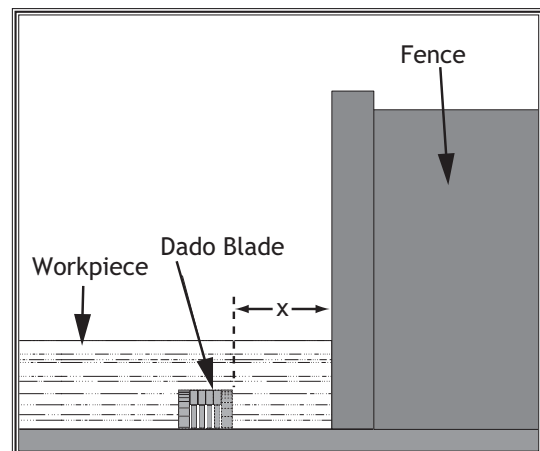

Figure 79. Cutting with dado blade.
5. Adjust the distance between the rip fence and the inside edge of the blade, as shown in **Figure 79**, to dado the length of a workpiece.